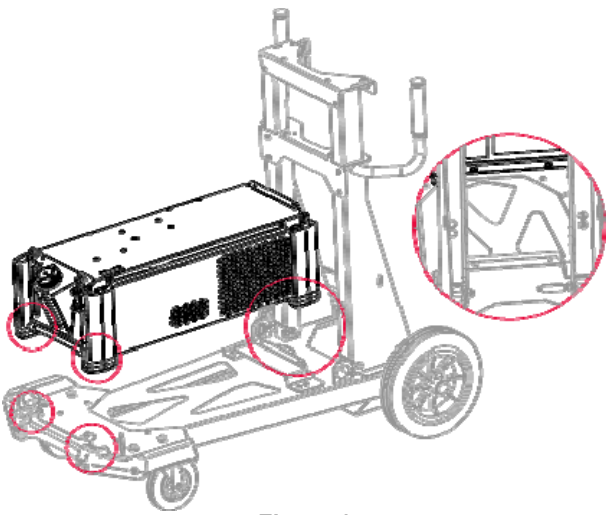

Figure 1
- Place the cooler on a four-wheeled cart (Figure 1)